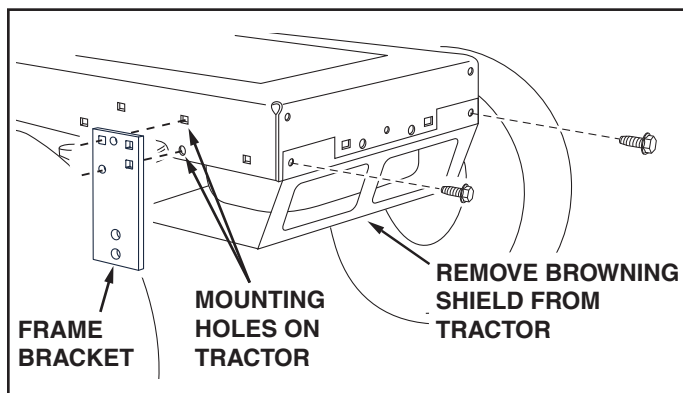

FIGURE 2
## STEP 2: (SEE FIGURE 2)
- Use figure 2 to help identify the mounting holes in the tractor frame.